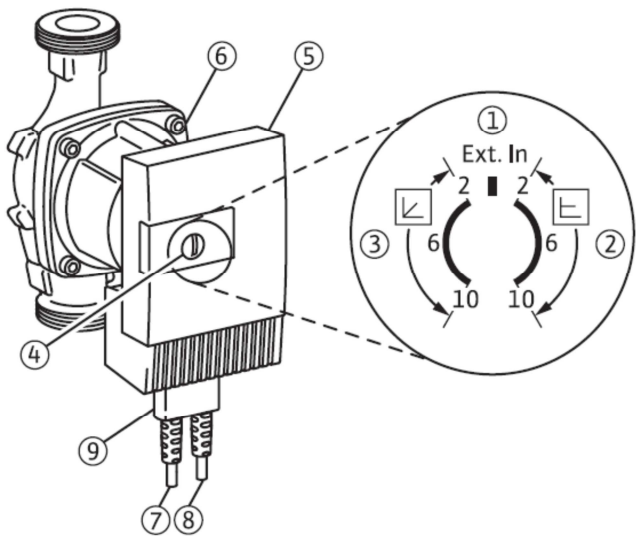

Fig. 1
To adjust the pressure head, turn the red wheel with a screwdriver in order to set the desired pressure head only in the right sector (indicated with ② in fig. 1):
The central position (indicated with ① in fig. 1) stops the circulator.
The left sector (indicated with ③ in fig. 1) adjusts the variable pressure head circulator based on the flow range. Do not use this setting as it may cause unit malfunction.